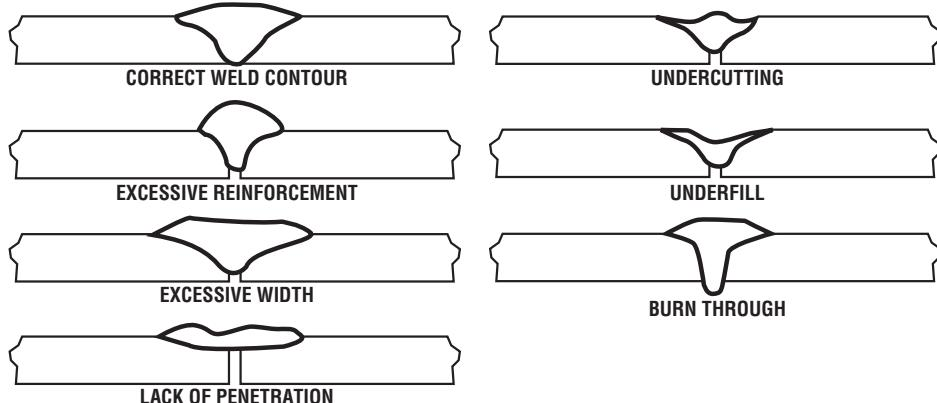

Figure 16: Characteristics of Good and Bad Welding Joints
7. Since the angle of the nozzle flame is preheating the metals ahead of the weld, the last $1/2"$ (12.7mm) of the weld is critical. Increase the addition of the filler rod to ensure a full smooth weld. Refer to Figure 16 for the visual characteristics of a good and bad weld joint.